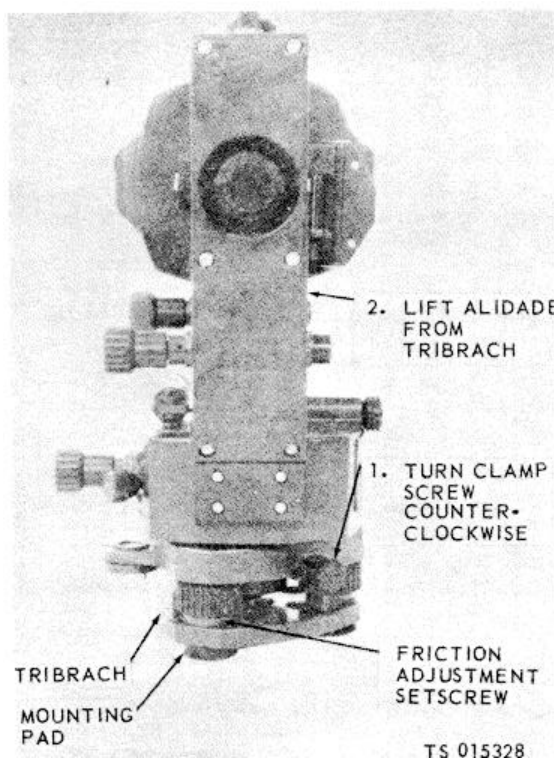

Figure 4-2. Tribrach, removal and installation.
b. *Removal.* Refer to figure 4-2 and remove the tribrach.